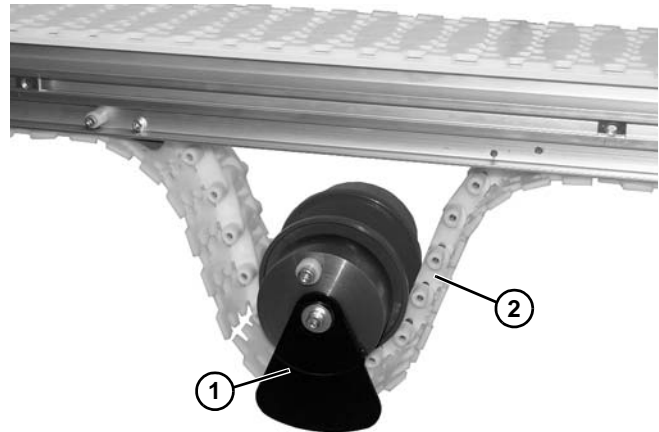

Figure 138
5. Remove idler pulley assembly (**Figure 138, item 1**) from belt (**Figure 138, item 2**).